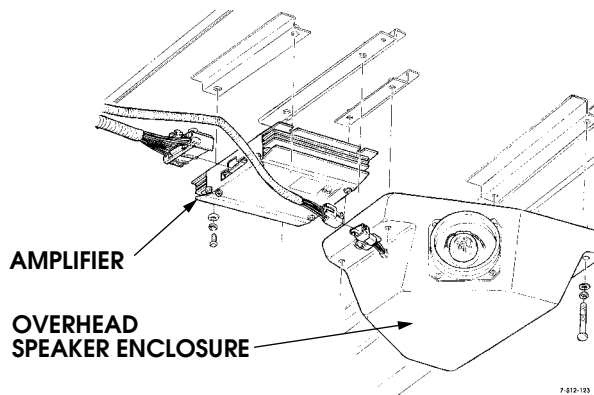

Figure 12-114.6: Overhead Speaker & Amplifier Removal.
8. Disconnect 32 pin connector from amplifier and four screws securing amplifier to mounting bracket (Figure 12-114.6).